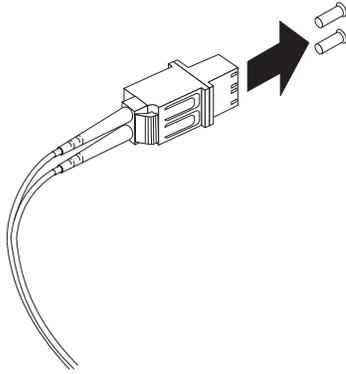

Figure 13. Removing the LC-SC cable adapter protective caps
3. Remove the two protective caps from the LC connector end of the LC-SC cable, as shown in Figure 13. Save the protective caps for future use.